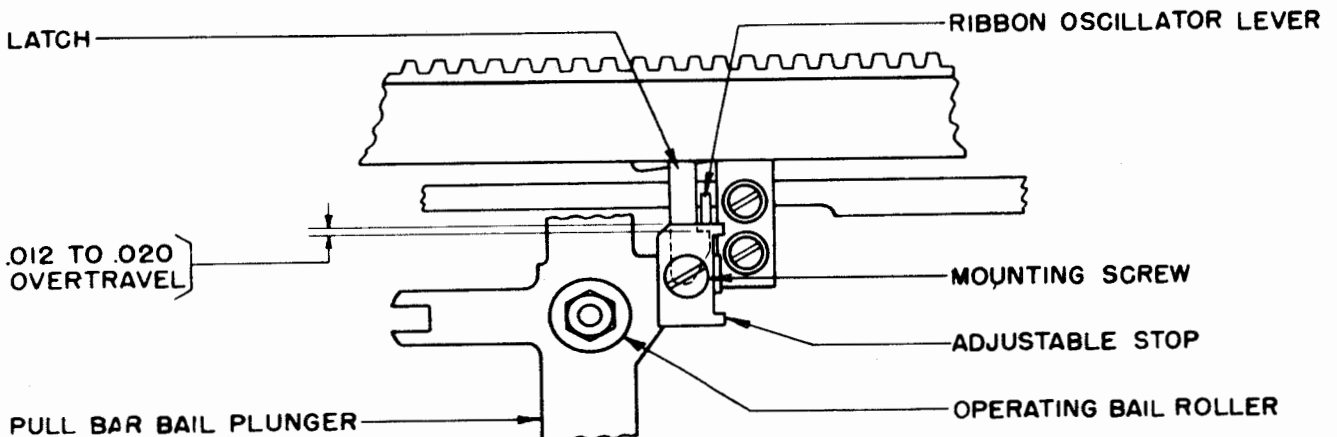

Figure 9
7.03 Ribbon-oscillator Lever: Select any character which types and turn the main shaft until the printing-bail is in its full forward position, then with the platen in the upper-case position, and the ribbon-oscillator lever toward the front of the typing unit (not held by its latch), check to see that the ribbon-oscillator is not resting against the ribbon-oscillator-lever adjustable stop. If necessary, loosen the screws and move the stop out of the way. (Adjustable stop is shown in Figure 9.) Manually place the ribbon oscillator lever in its latched position. Then with the comma type-pallet pushed tightly
minimum 0.012 inch, maximum 0.020 inch. See Figure 9.